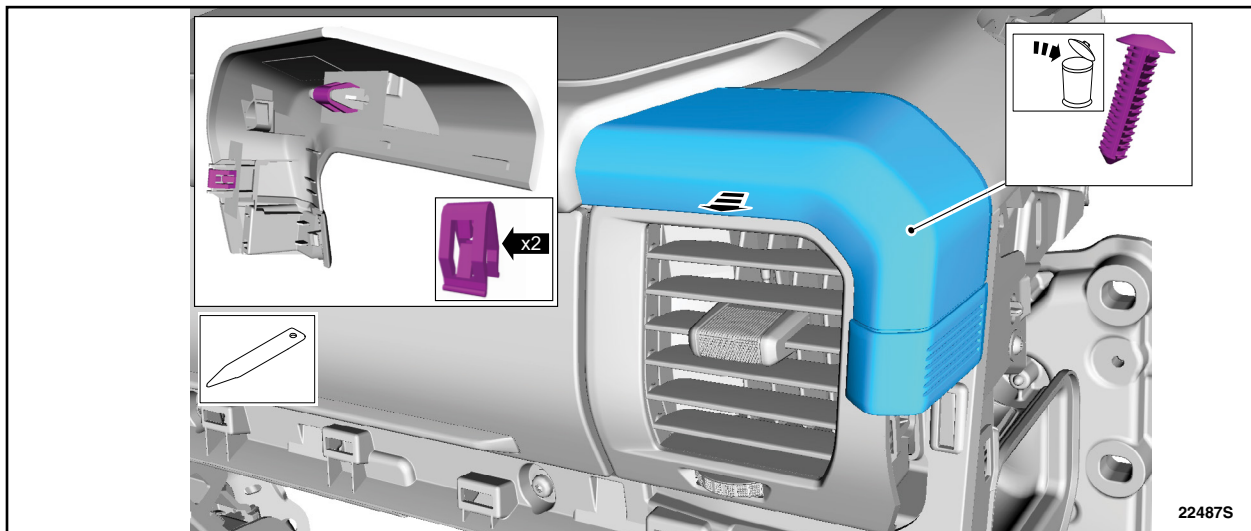

FIGURE 17
18. Release the retainers and remove and discard the push pin. Remove the RH register bezel. See Figure 17.